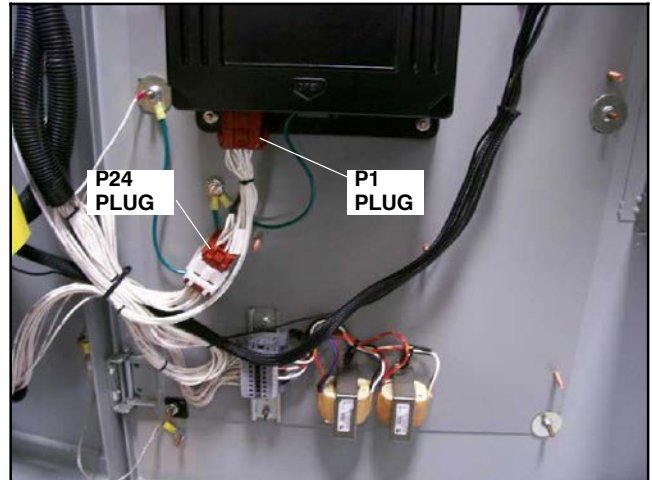
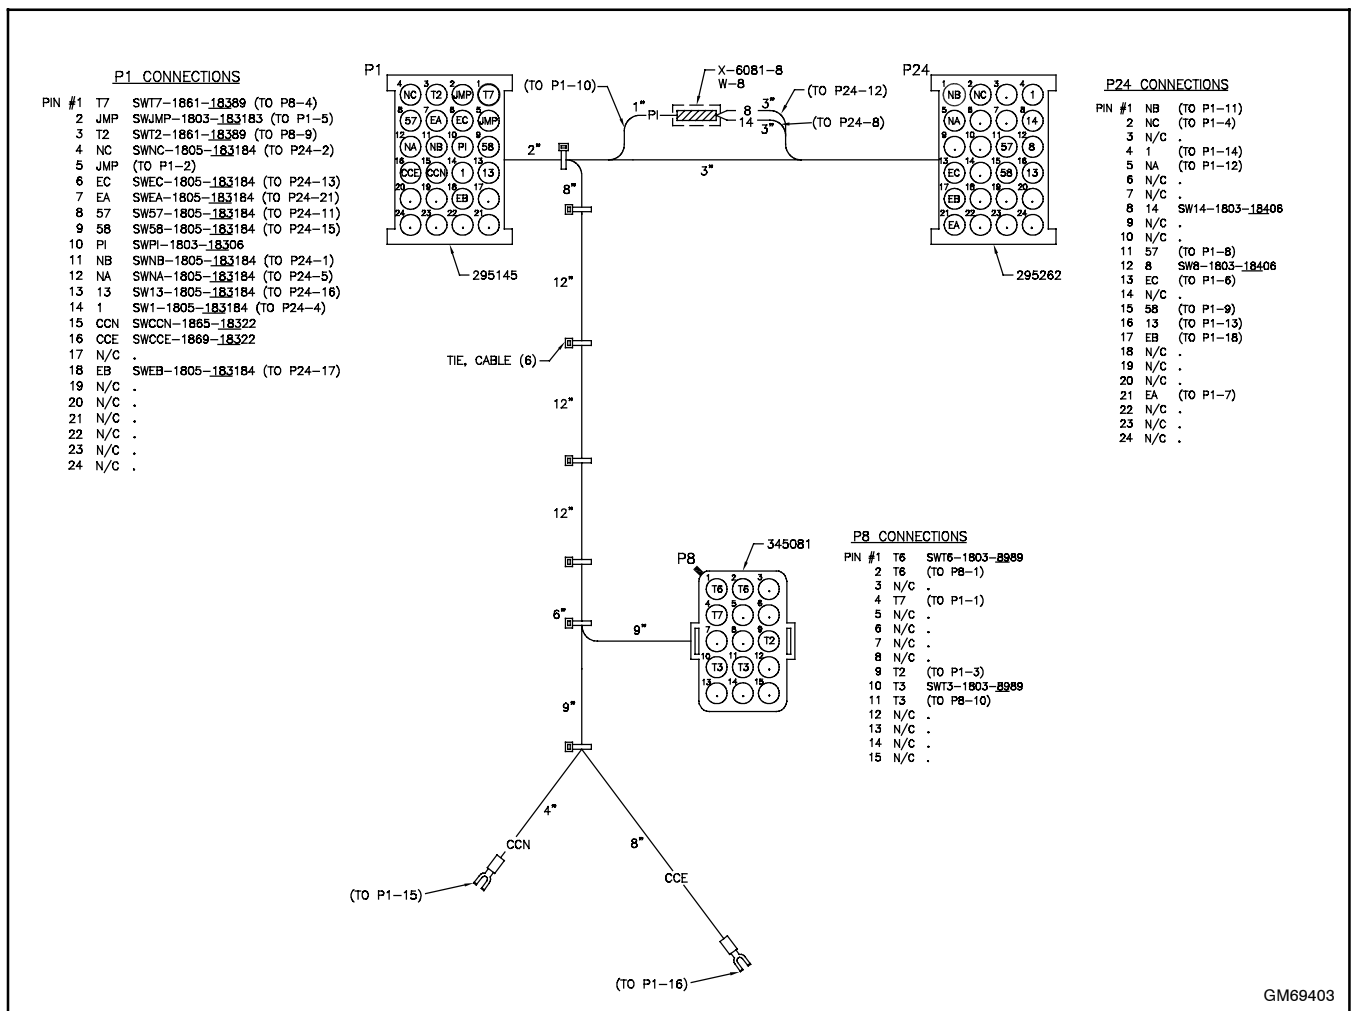

Figure 36 Conversion Kit Harness Connection to Controller Assembly
Figure 37 Conversion Kit Harness GM69403
24. See Figure 37 for conversion kit wire harness GM69403 and Figure 36 for harness connections.